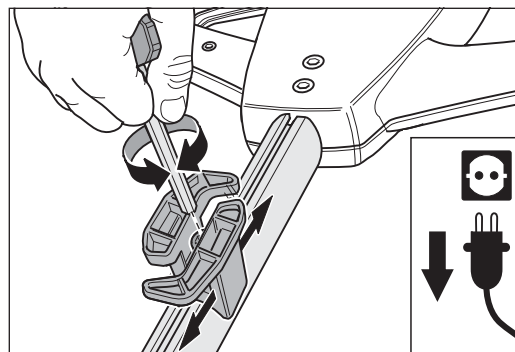

Fig. 20 Release the screw, move the cable holder with the sliding block and then tighten the screw again.
- 1 Using a hexagonal socket wrench, slacken the screw in the middle of the cable holder just enough to let you slide the cable holder along the groove with the sliding block (Fig. 20).
- 2 Slide the cable holder into the position you want it in and tighten the screw again. As you do so, the sliding block turns so that the cable holder is clamped in place (Fig. 20).